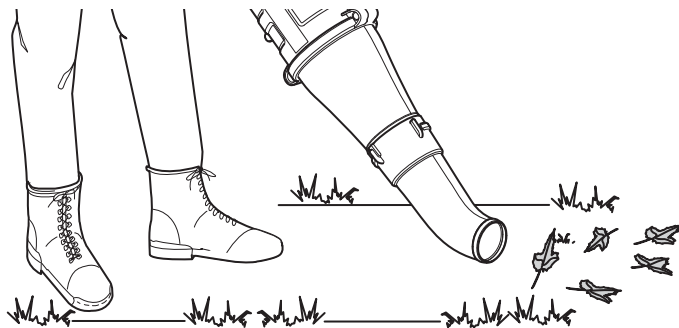

Fig. 8
- Use the nozzle for hard-to-reach places, such as corners in a garage, or to control dust in a dust-laden environment (Fig. 8).